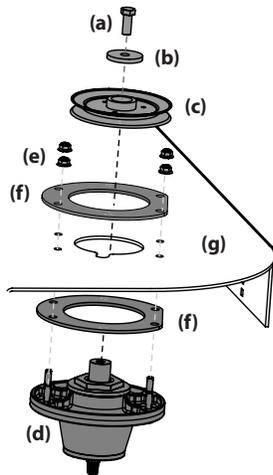

Figure 4-19
6. Remove the hex lock screw (a) and flat washer (b) securing the spindle pulley (c) to the spindle assembly (d). See Figure 4-19.
7. Remove the four (4) flange lock nuts (e) securing the spindle assembly (d) and the two support plates (f) to the deck shell (g). See Figure 4-19.
8. Reverse the process to install the spindle assembly. When installing the new spindle assembly be sure to install the hardware exactly as shown in Figure 4-19. Torque the hex lock screws (a) to 90-110 ft-lbs and the flange lock nuts (e) to 13-20 ft-lbs.